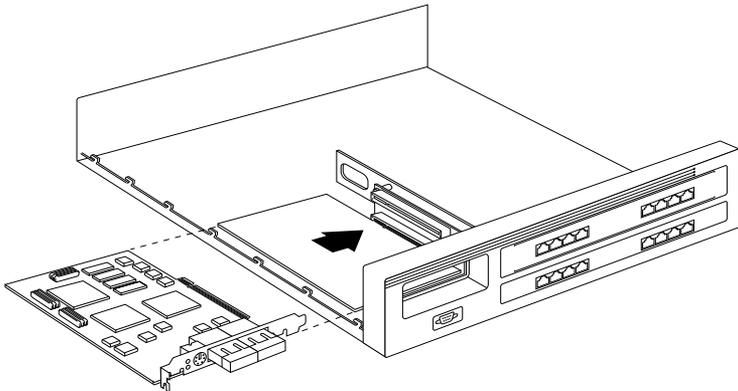

Figure 6: Uplink Card Insertion
7. Install the uplink card into the lower PCI slot (Figure 6).